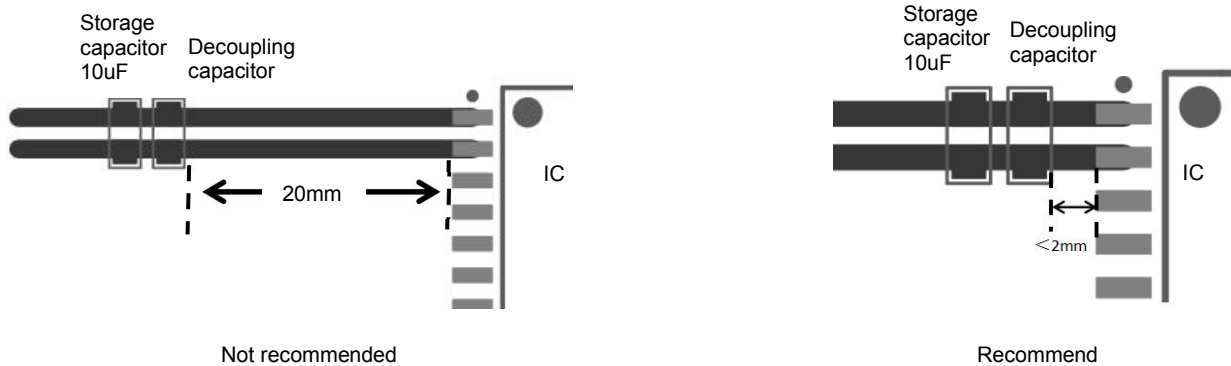

Figure 14-1
1. The decoupling capacitors and energy storage capacitor of VCC and GND1, VISO and GND2 should be placed as close the chip pins as possible to the chip pins to reduce loop area and parasitic inductance of PCB traces. General control should be within 2mm. The decoupling capacitor is placed close the chip, and the energy storage capacitor is placed outside. As shown in Figure 14-1.